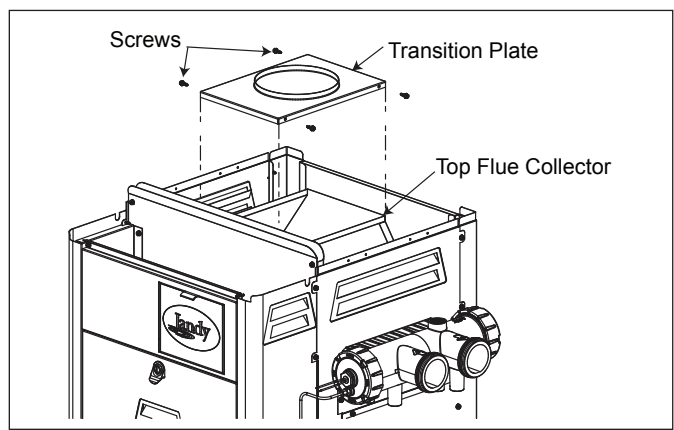

Figure 4. Installation of Transition Plate to Flue to Top Flue Collector
7. Use the four (4) holes in the transition plate as guides to drill four (4) 1/8" diameter holes, to fasten transition plate to top flue collector using four (4) screws supplied in the kit. See Figure 4.